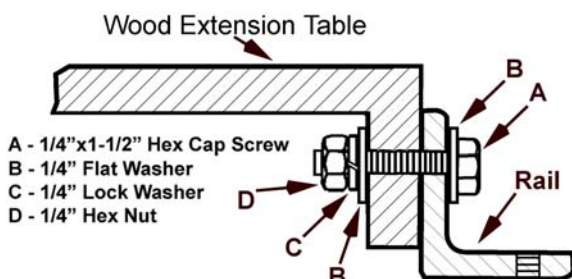

Figure 9
6. Referring to Figure 9: Install hex cap screws (A), flat washers (B), lock washers (C) and hex nuts (D) into the holes in the front and rear edges of the extension table as shown. Finger-tighten only.